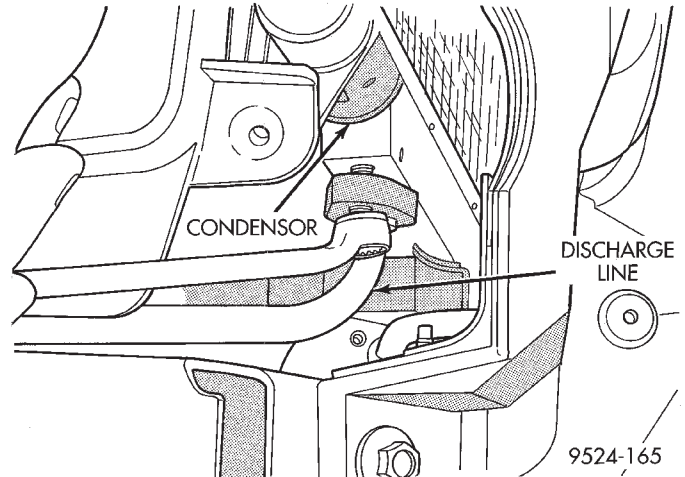

Fig. 23 Condenser Discharge Line
- (3) Remove discharge line at the top fitting on the condenser (Fig. 23).